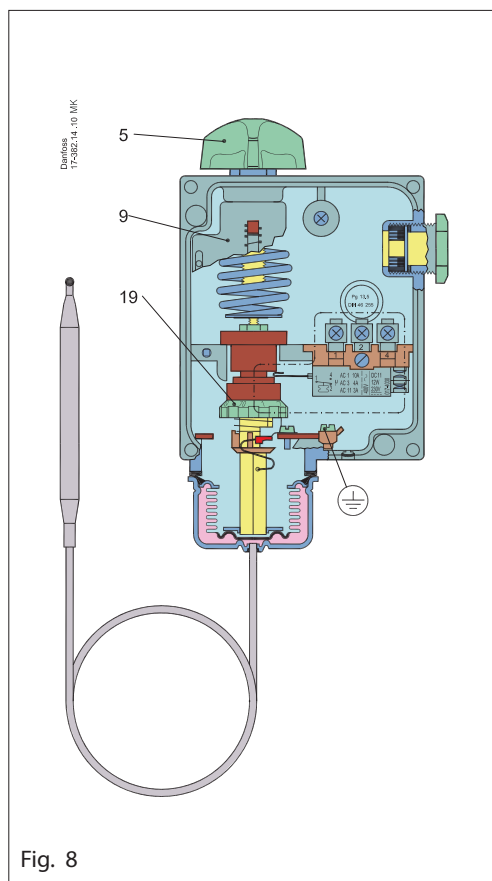

Fig. 8
2. Set the thermostat on 70 °C using the hand knob (5), fig. 8.
3. Set the differential disc (19) on 3. This figure is obtained from the RT 101 nomogram, page 5.